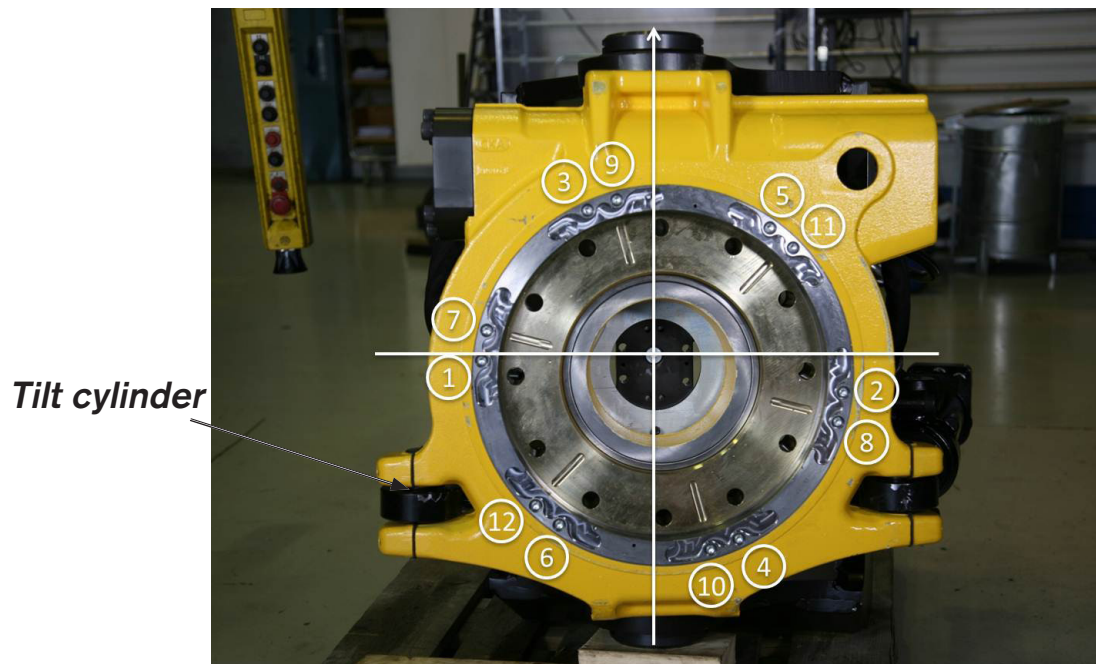

Figure 29. Order for torque tightening the bearing ring
To ensure that the locking of the bearing ring in the frame is correct, it is important for the locking screws to be tightened in the correct order and to the correct torque. Torque tightening is carried out in two stages, see Figure 29.
4. **Stage 1:** Torque tighten locking screws for the bearing ring in order as shown in Figure 29. Tightening torque 15 Nm.
5. **Stage 2:** Torque tighten locking screws for the bearing ring in order as shown in Figure 29. Tightening torque 34 Nm.